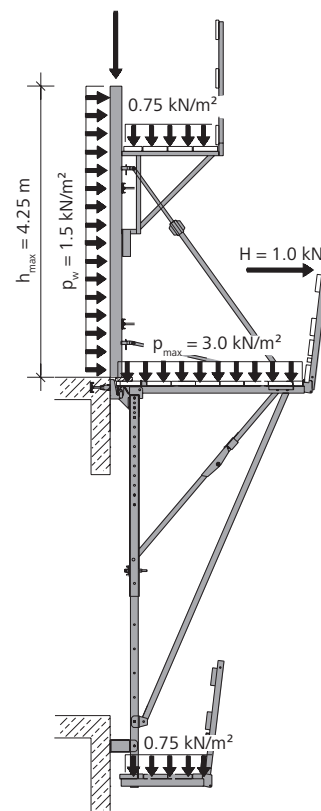

Fig. 22.3
- Working scaffold with secondary platform and formwork supported by the platform (Fig. 22.3)